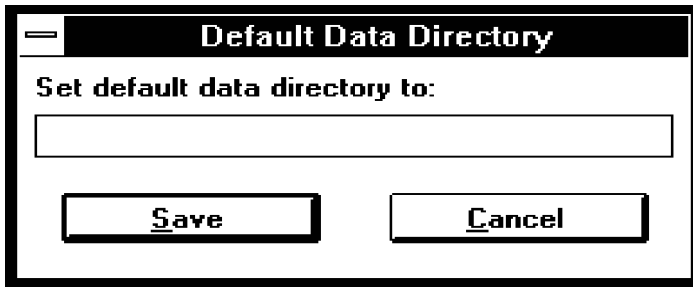

Figure 4-33—The Default Data Directory dialog box
- From the **Options** menu, select **Default Data Directory**. The dialog box of Figure 4-33 appears.